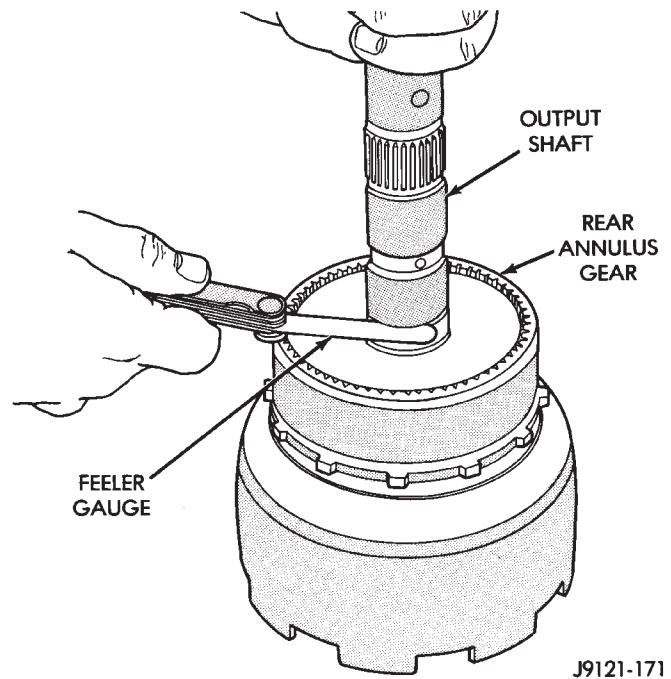

Fig. 100 Checking Planetary Geartrain End Play
(23) Check planetary geartrain end play with feeler gauge (Fig. 100). Gauge goes between shoulder on output shaft and end of rear annulus support.
(24) Geartrain end play should be 0.12 to 1.22 mm (0.005 to 0.048 in.). If end play is incorrect, snap ring (or thrust washers) may have to be replaced. Snap ring is available in three different thicknesses for adjustment purposes.